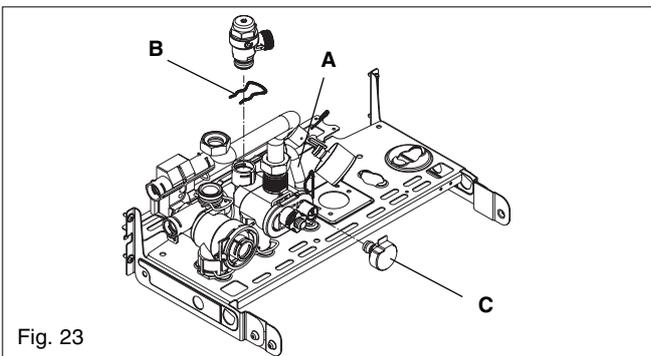

Fig. 23
6.6 SAFETY VALVE (fig. 23)
6.8 WATER PRESSURE SENSOR/GAUGE (fig. 23)